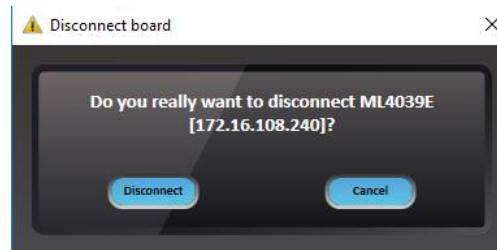

Figure 10: Disconnect popup window
- Close button: disconnect from the BERT and close GUI instance (Figure 10).